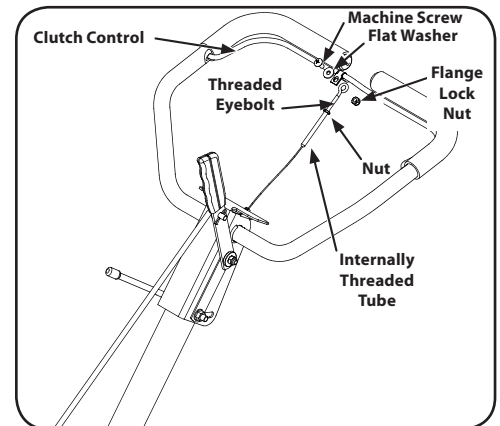

Figure 2-8
4. Remove the machine screw, flange lock nut and washer from the clutch control. See Figure 2-8.
6. Thread the eyebolt and nut removed earlier into the internally threaded tube at the end of the cable. Thread engagement should be about 3/4". Tighten the nut against the tube at the end of the cable. See Figure 2-8.